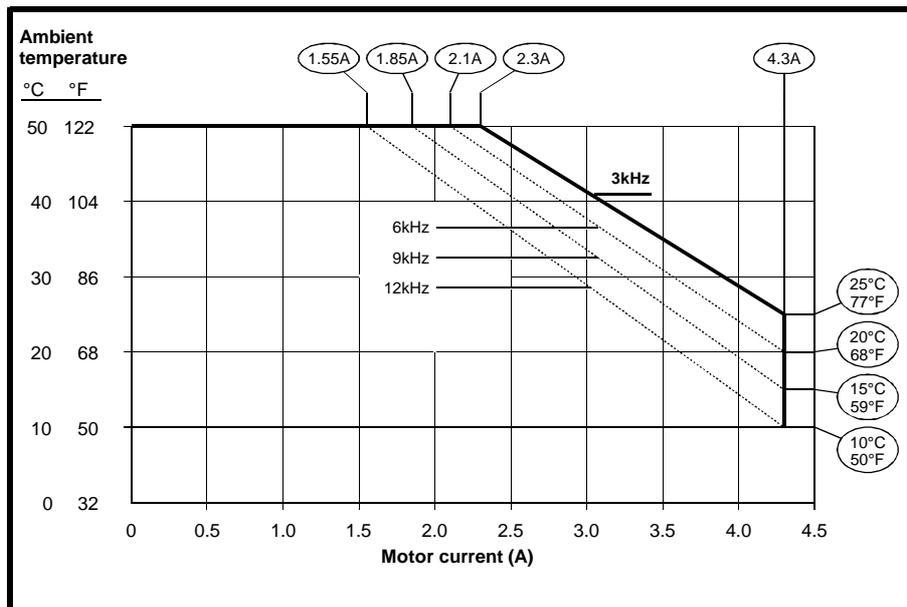

Figure 4–1 De-rating curves for all model sizes at 3kHz PWM switching frequency (other frequencies shown for reference)
- 1 Refer to Figure 4–1 to find the maximum ambient temperature that is permissible at the required maximum output current. Make a note of this value.